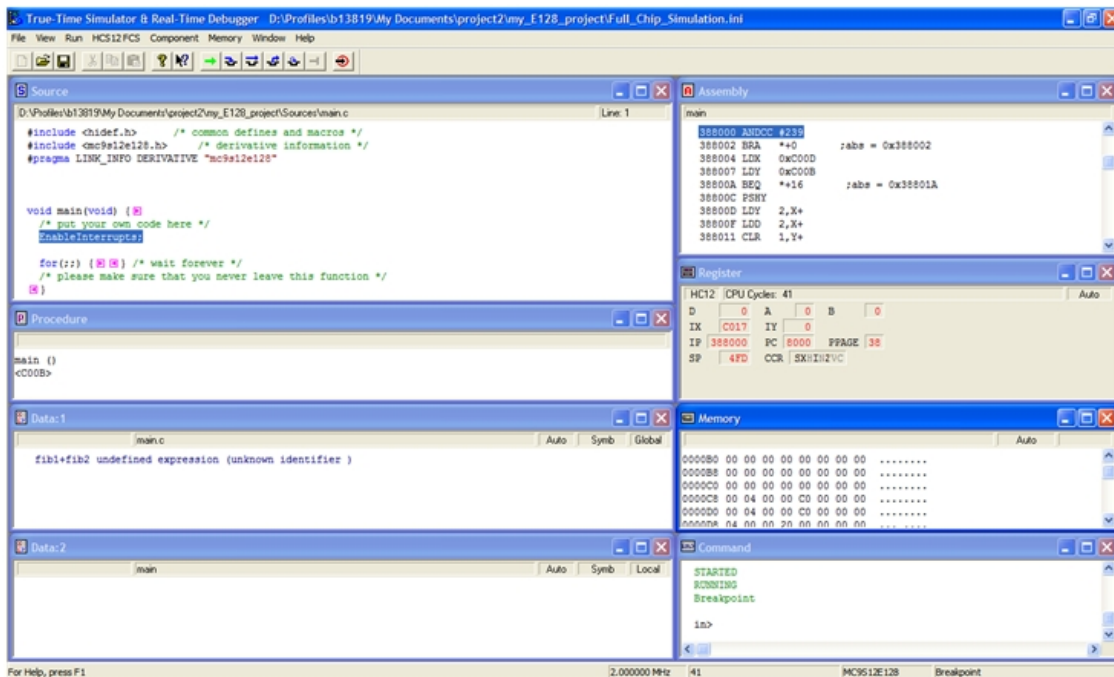

Figure 3-10 PC-lint Options Screen
15. Click the “Finish” button. The IDE opens (As shown as Figure 3-10). Click “main.c”, you add and modify the source code.